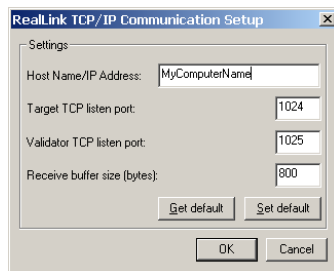

Figure 168: TCP/IP Communication Setup dialog box
- 1 Perform the steps described in *Step 6: Configuring the Validator for RealLink*, page 215. When you click the **Configure** button after having selected TCP/IP communication, the Setup dialog box for TCP/IP communication will be displayed. See *Figure 168*, page 218.